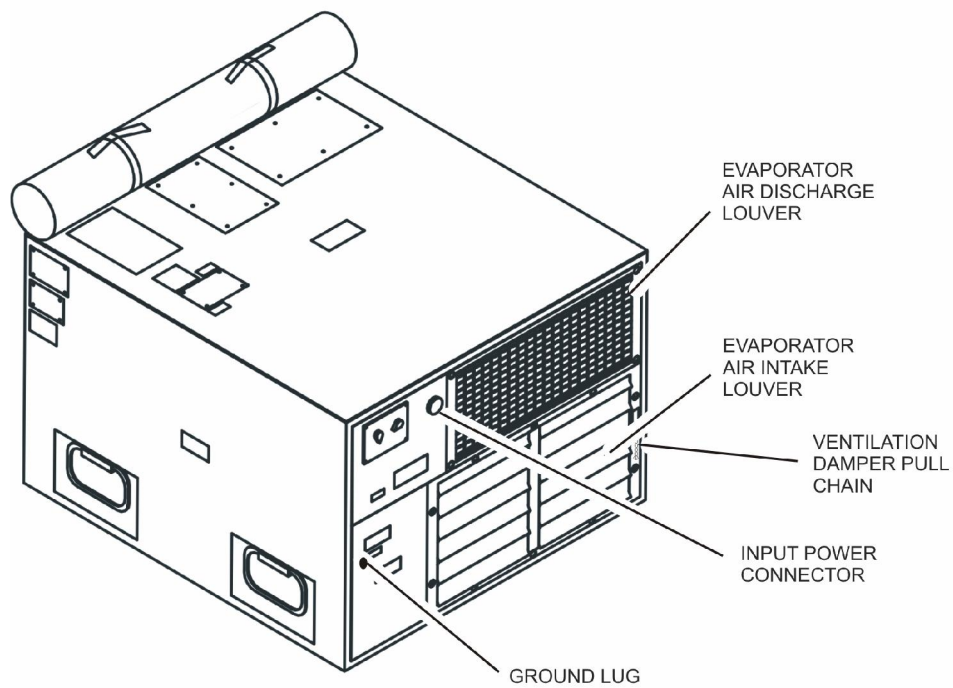

Figure 2. Air Conditioner Front View
6. Open the evaporator intake louvers (see Figure 2) by moving the tabs up or down as required. Ensure evaporator discharge louvers are open by adjusting each louver individually.